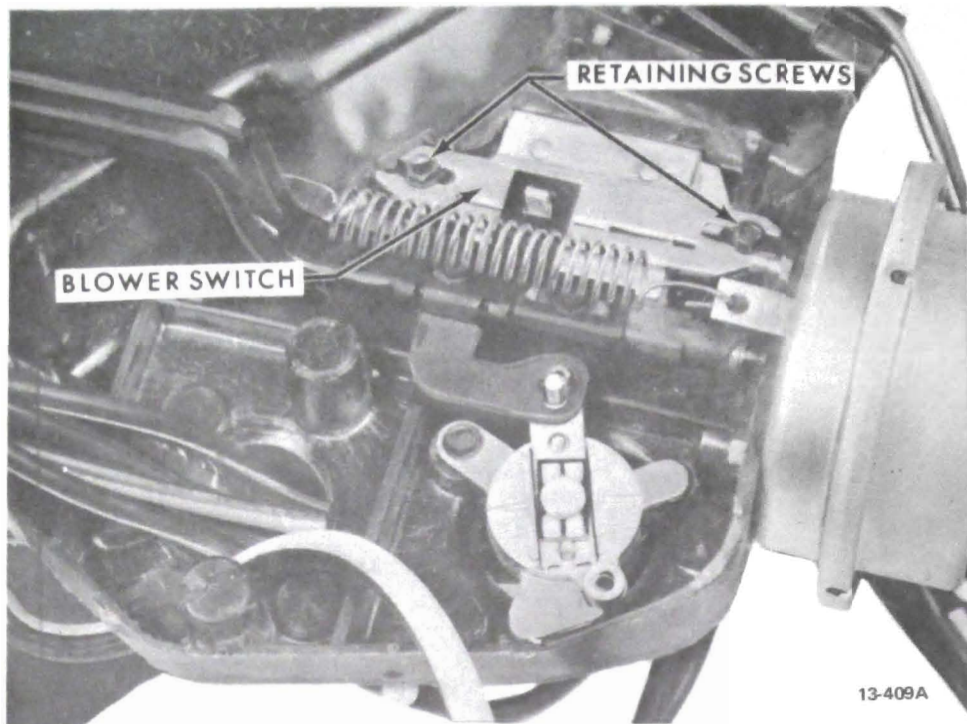
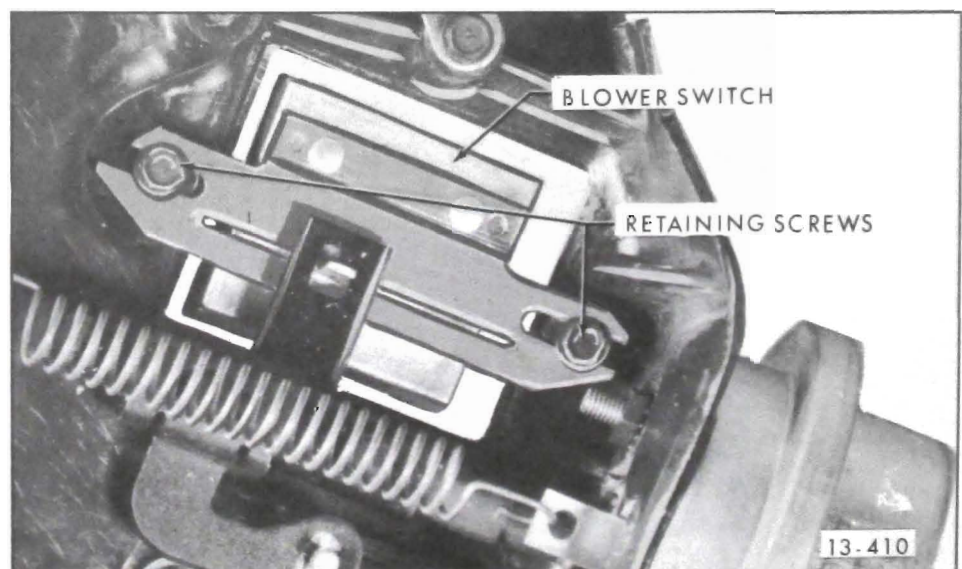

Figure 13-210 45-46-48000 Series
Figure 13-211 49000 Series Adjust
6. Position blower switch as necessary to obtain high blower in both maximum heater (12.5 volts) and maximum A/C (13.5 volts). 45-46-48000 Series see Figure 13-210. 49000 Series see Figure 13-211.